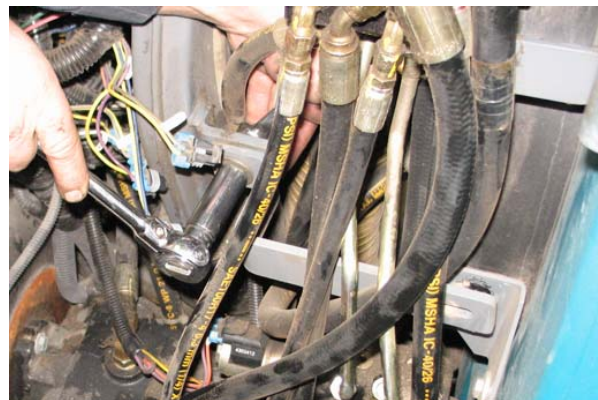

FIG. 5
4. Remove the support bracket. Set the support bracket and hardware aside. (Fig. 5)